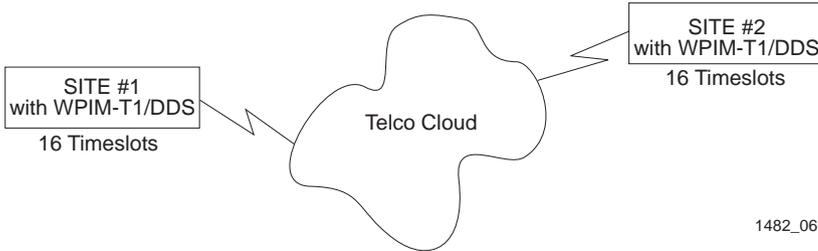

Figure 3-7 Fractional T1 Configuration
This section provides step-by-step instructions for configuring the WPIM-RT1 to use a fractional T1 circuit in a PPP environment. This example assumes the setup shown in Figure 3-7 using two CSX400s with each containing a WPIM-RT1. Configurations may vary depending on the host platform. In a fractional T1 setup, only a portion of the 24 Timeslots or DS-0s are used.
4. Insert an interface number (see the Notes on page 3-16) into every Timeslot being used (in the example shown in Figure 3-7, 16 Timeslots are used, the rest have zeros in them). Type the number, press ENTER, then use the arrow keys to highlight the next Timeslot field. Exit this field by using the arrow keys. The cursor automatically moves to the **T1 Line Coding** field.